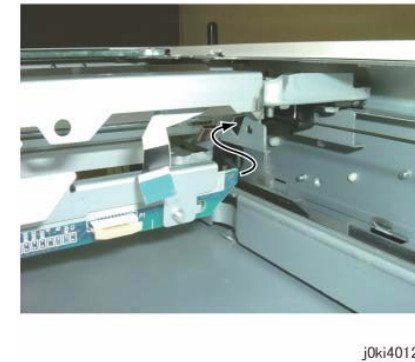

Figure 5 Install the LED Lamp
3. When installing the LED Lamp, insert the rear side of the LED Lamp PWB into the square hole of the Full Rate Carriage. (Figure 5)